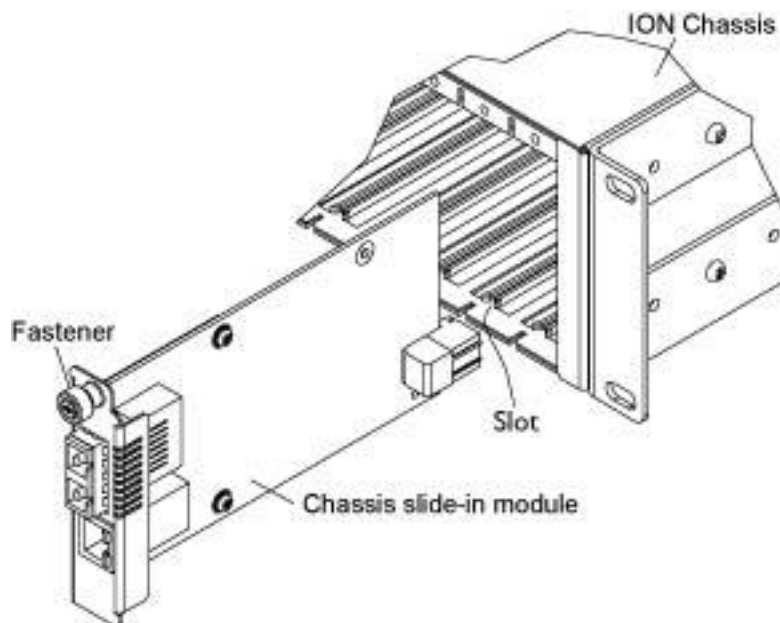

Figure 13: Chassis Installation
5. Push in and rotate clockwise the panel fastener screw to secure the card to the chassis (see Figure 13: Chassis Installation on the previous page).